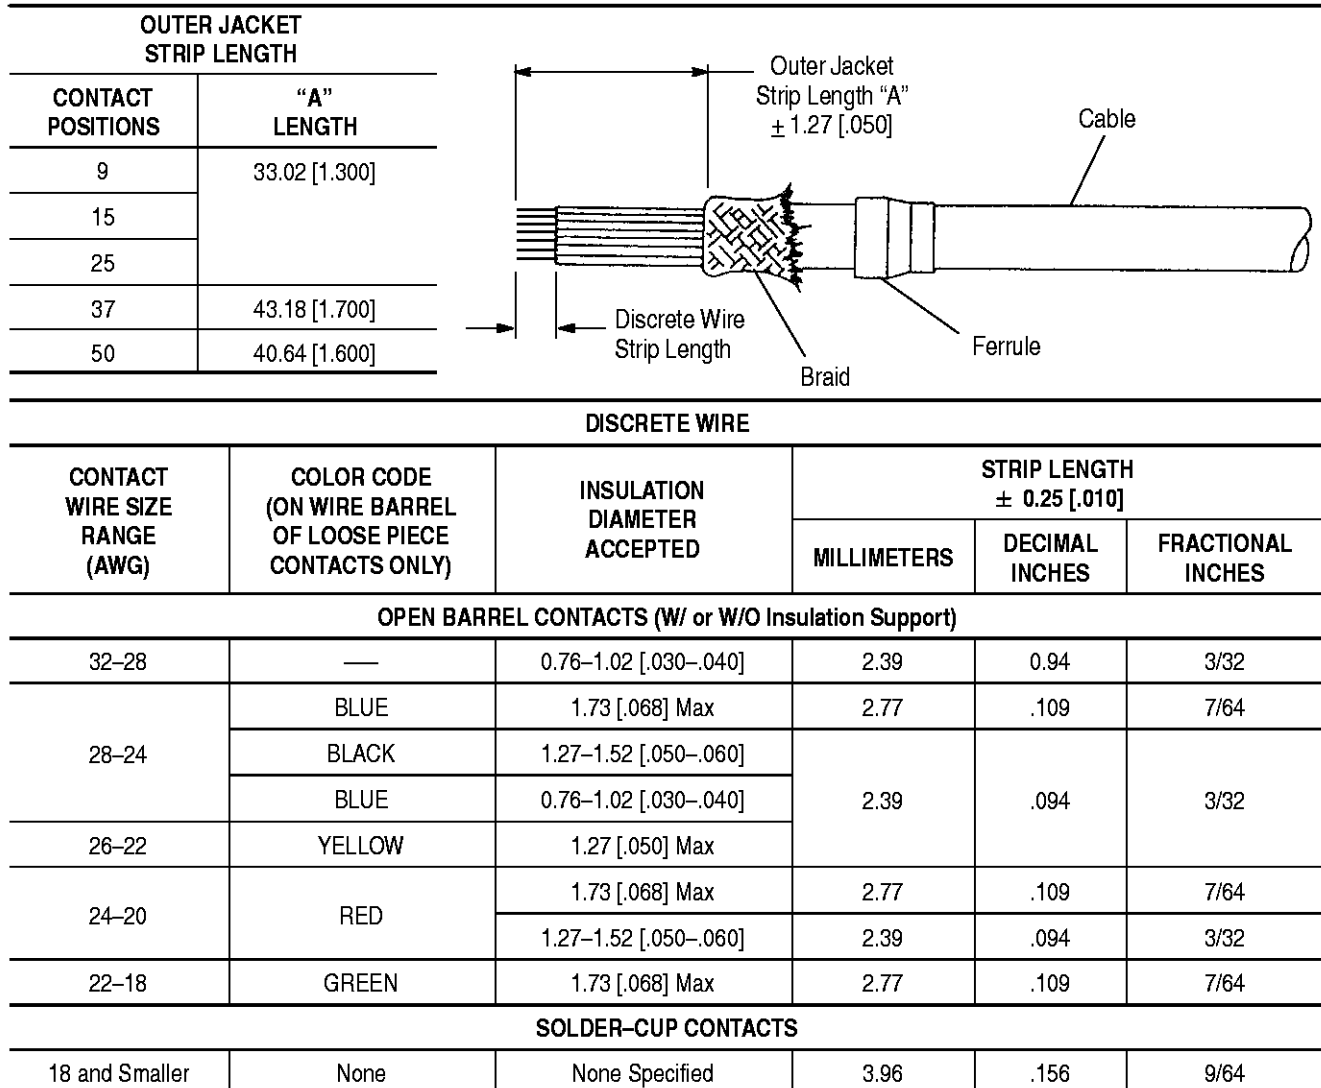

Figure 2
- Added wire size range "32 to 28" to tables in Figures 2, 4, and 8
Figure 2 lists insulation stripping lengths as determined by the contact wire size range used. Also listed are acceptable wire insulation outside diameters for the contacts, and color codes used to easily identify loose-piece contacts.